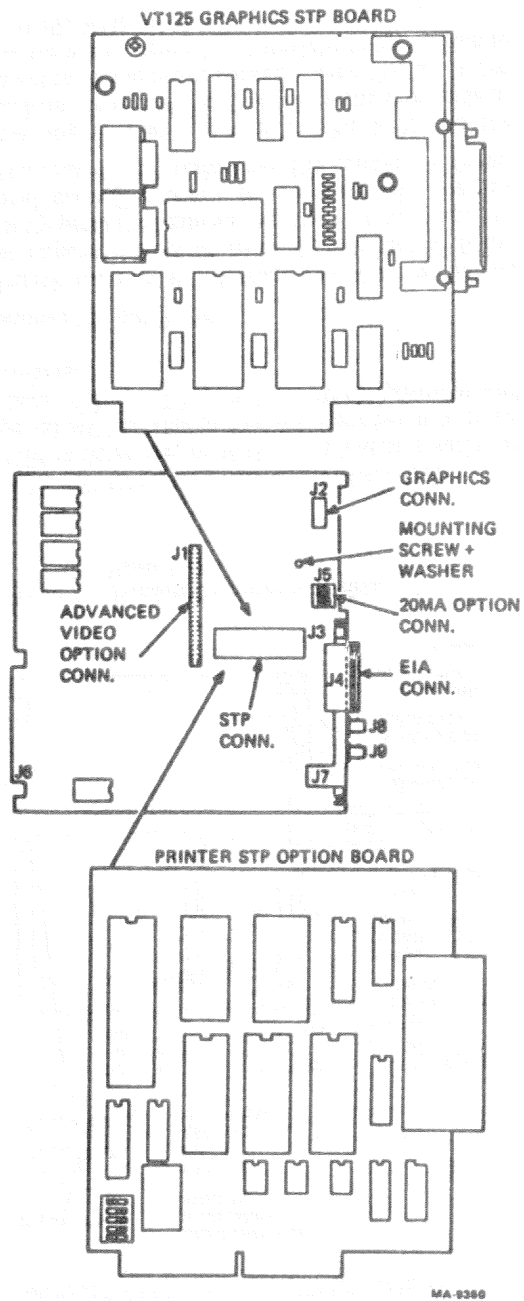

Figure 5-5 Installing Printer Port on VT125 STP Board
3. Remove the screw and washer holding the STP board to the terminal controller board (Figure 5-5).
3. Remove the screw holding the STP board to the terminal controller and remove the board (Figure 5-5). Remove the 24-pin cable from the STP board and the graphics board. Remove the 16-pin cable from the terminal controller connector.